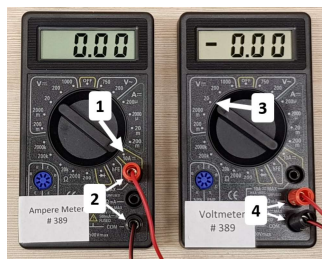

Figure 3 - Ammeter and Voltmeter
- Voltmeter - the voltmeter function selector should be set to 20 Volts DC (Figure 3).
- Ammeter - The ammeter function selector should be set to 10 Amperes DC (Figure 3).